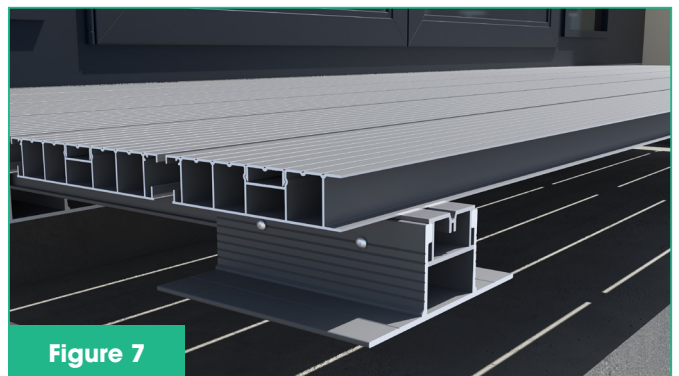

Figure 7
- Cut the board lengthways to suit (offset cuts recommended) (Figure 7).